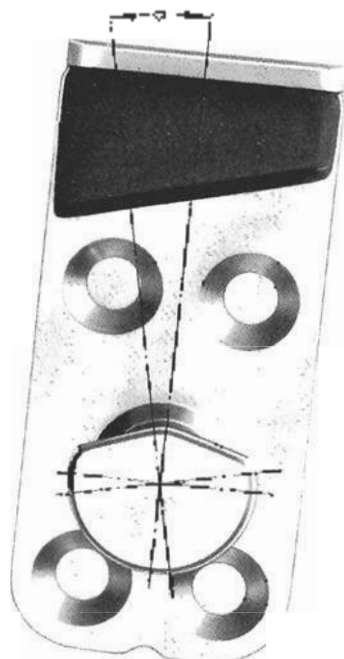

Fig. 5-6
6. After aligning the door, grasp the door handle and feel for play between the lock and the striker plate. If there is play or if the door will not latch, rotate the striker plate as indicated in Fig. 5-6. If the door is hard to close or if the handle works stiffly, rotate the striker plate in the opposite direction.
**Fig. 5-6.** Striker plate turned from vertical as indicated by arrow. This moves the edge closer to the door latch. Notice the point at the center of the striker plate lug about which the striker plate is rotated.